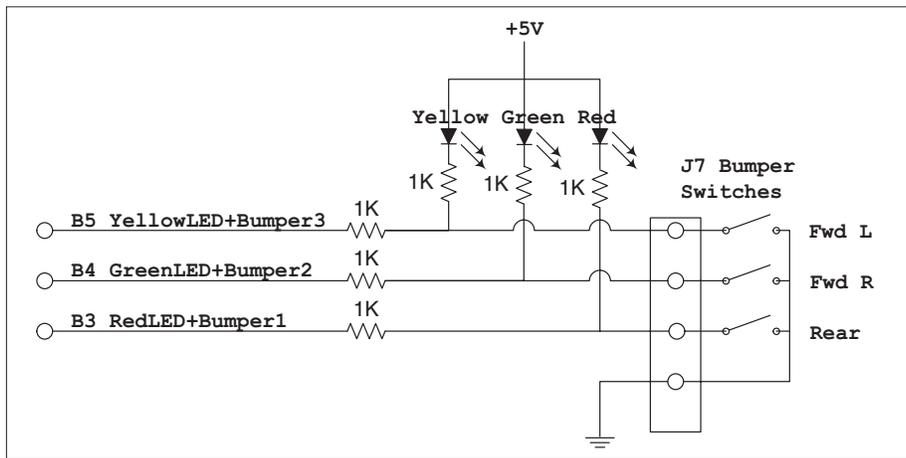

FIGURE 10. LEDs + Bumpers
- Pins 10-14 (port B5-B3) do double duty, in order to conserve I/O ports (Figure 10). They serve as LED outputs for status reporting and also as inputs for reading the bumper for collisions. The software switches rapidly between output and input mode to make this work; 1K resistors protect the I/O ports and LEDs from short-circuit conditions. The green LED is a heartbeat. It blinks once each time the PIC goes through its main control loop. The yellow LED indicates serial communication. It blinks each time the PIC receives a packet of data from